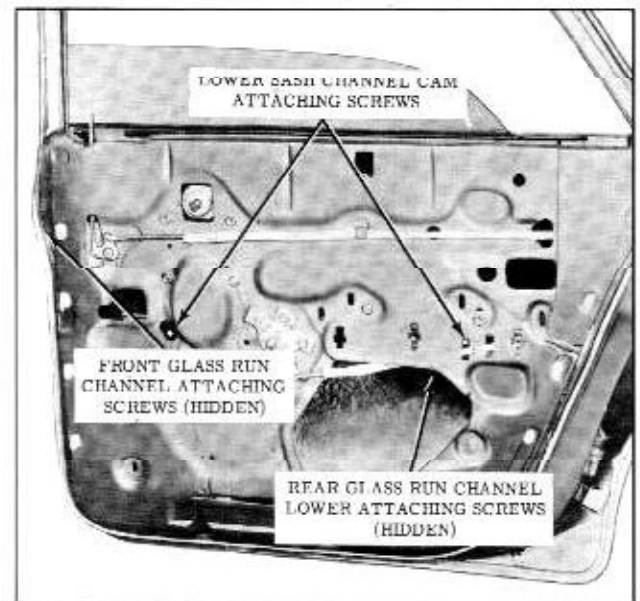

Fig. 17-46 Rear Door Assembly ('35', '45' & '69' Styles)
2. On '35', '45' and '69' styles, through large access hole, remove screw securing lower end of glass run channel at door lock pillar and raise end of channel to expose lock assembly. (Fig. 17-46)
3. On "35", "45" and "69" styles, through large access hole, remove screw securing lower end of glass run channel at door lock pillar to gain access to spring clip securing rod to lock. (Fig. 17-46)
- large access hole, remove glass run channel lower attaching screw at lock pillar to gain access to spring clip securing rod to lock. (Fig. 17-46)
- Remove front glass run channel lower attaching screws from hinge pillar facing of door inner panel. (Fig. 17-46)